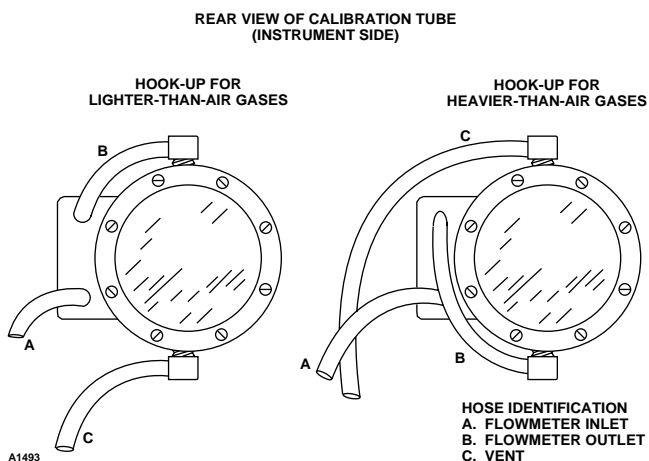

Figure 8—Calibration Hookup
1. Attach the Flowmeter Outlet Hose to the appropriate hose fitting on the Calibration Tube as shown in Figure 8.
6. Attach the vent hose and flowmeter inlet hose to the calibration tube as shown in Figure 8. For heavier than air gases, the flowmeter outlet hose is connected to the hose fitting on the bottom of the calibration tube and the vent hose is connected to the hose fitting on the top. For lighter than air gases, these two connections are reversed.